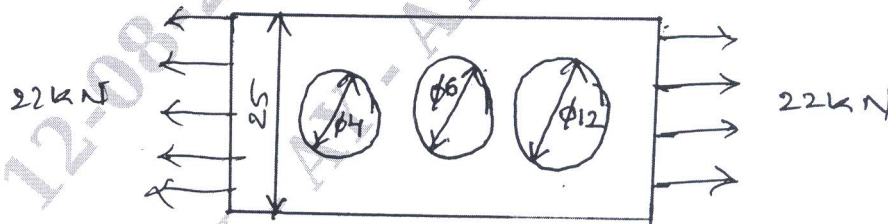

Fig.Q2(b)
- b. A rectangular plate 15mm thick made of a ductile material is shown in Fig.Q2(b). Calculate the stresses at each of the three holes considering stress concentrations factor.